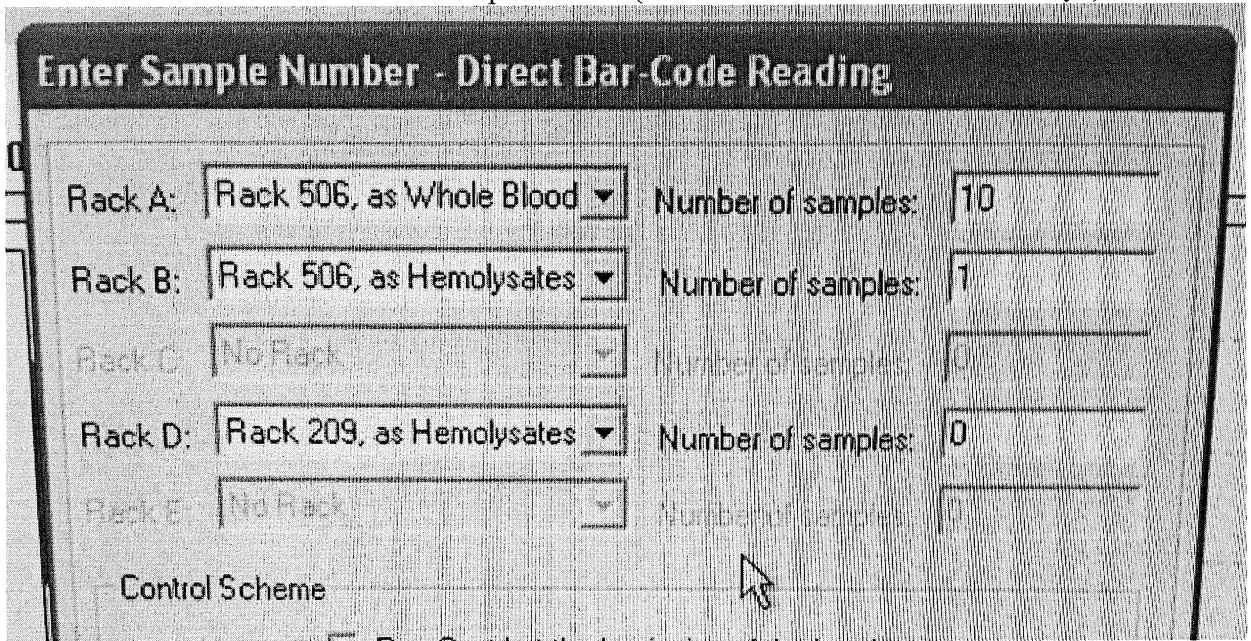

Fig 1 . Direct Barcode Reading rack choices.
2. Go to Main→Edit samples→Direct bar-code reading (see Fig 1)
3. Go to Main→Edit samples→ Direct bar-code reading (see Fig. 1)